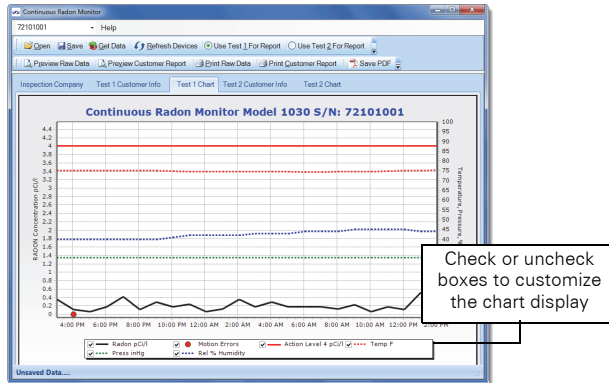

Figure 16. Test 1 Chart Example
- 2 Select **Test 1 Chart** in the navigation panel (Figure 16).